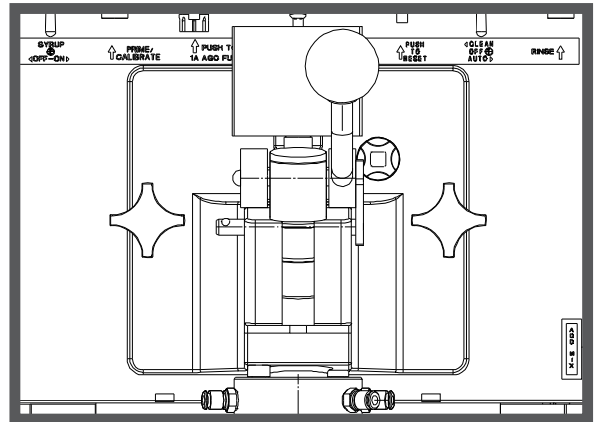

Figure 3
3. Place an empty container under mix chamber. Turn syrup pump switch to the "ON" position. Select a syrup flavor by pushing proper button (see figure 2) and then press syrup prime/calibrate button (see figure 3) to purge syrup from line. Hold the button and allow at least 1-1/2 cups of
- c. Select a syrup flavor by pushing the proper button (see figure 2) and then press the syrup prime/calibrate button (see figure 3). Hold button until sanitizer is flowing into bucket. Continue holding button for one (1) minute.